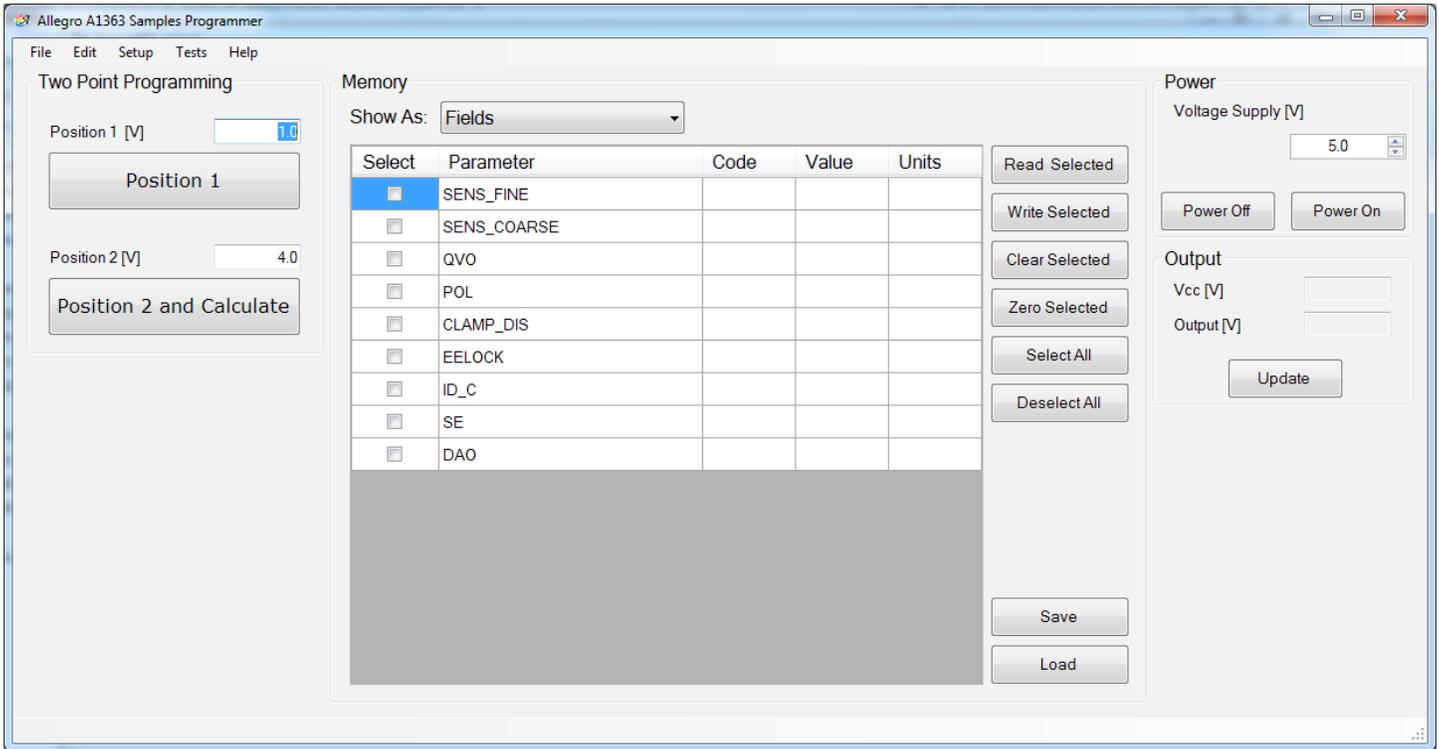

Figure 8: Allegro 1363 Samples Programmer Window
1. Double-click **Allegro A1363 Samples Programmer.exe**. The Allegro A1363 Samples Programmer window will appear (see Figure 8).